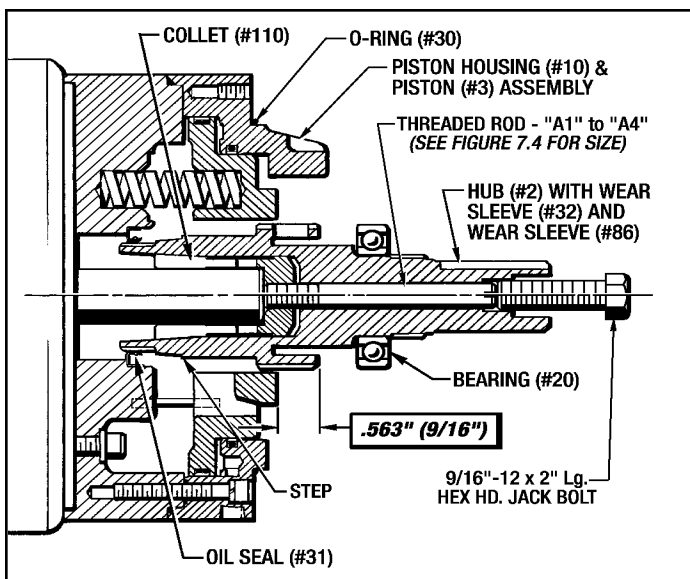

Figure 9.9 - Installing MB-210 & MB-210L Hub (#2)
4. Position the Hub (#2) so the end of the spline is **.563" (9/16")** from the face of the Piston (#3) as shown in **Figure 9.9**.
5. Install the correct Threaded Rod "A" into the Collet (#110) approx. 4 or 5 turns. **Hand tighten** the Jack Bolt into the end of the Hub (#2) just until it makes contact with the Threaded Rod "A". **Do not tighten any further.** (See **Figure 9.9** below.)